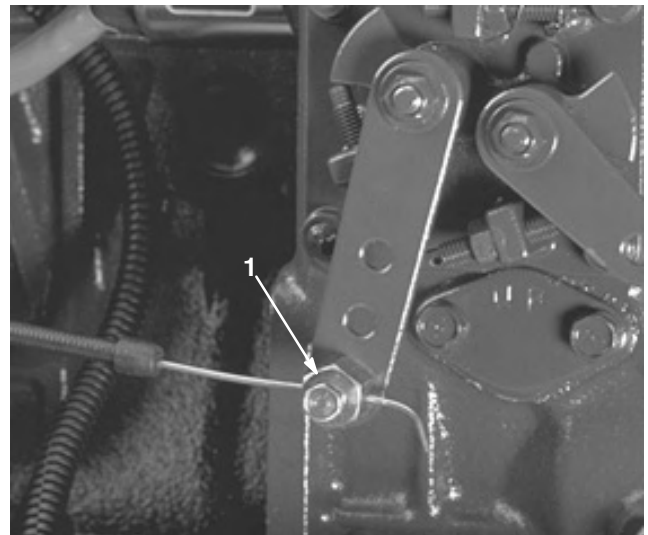

Figure 46
2. Loosen the throttle cable connector on the injection pump lever arm (Fig. 46).